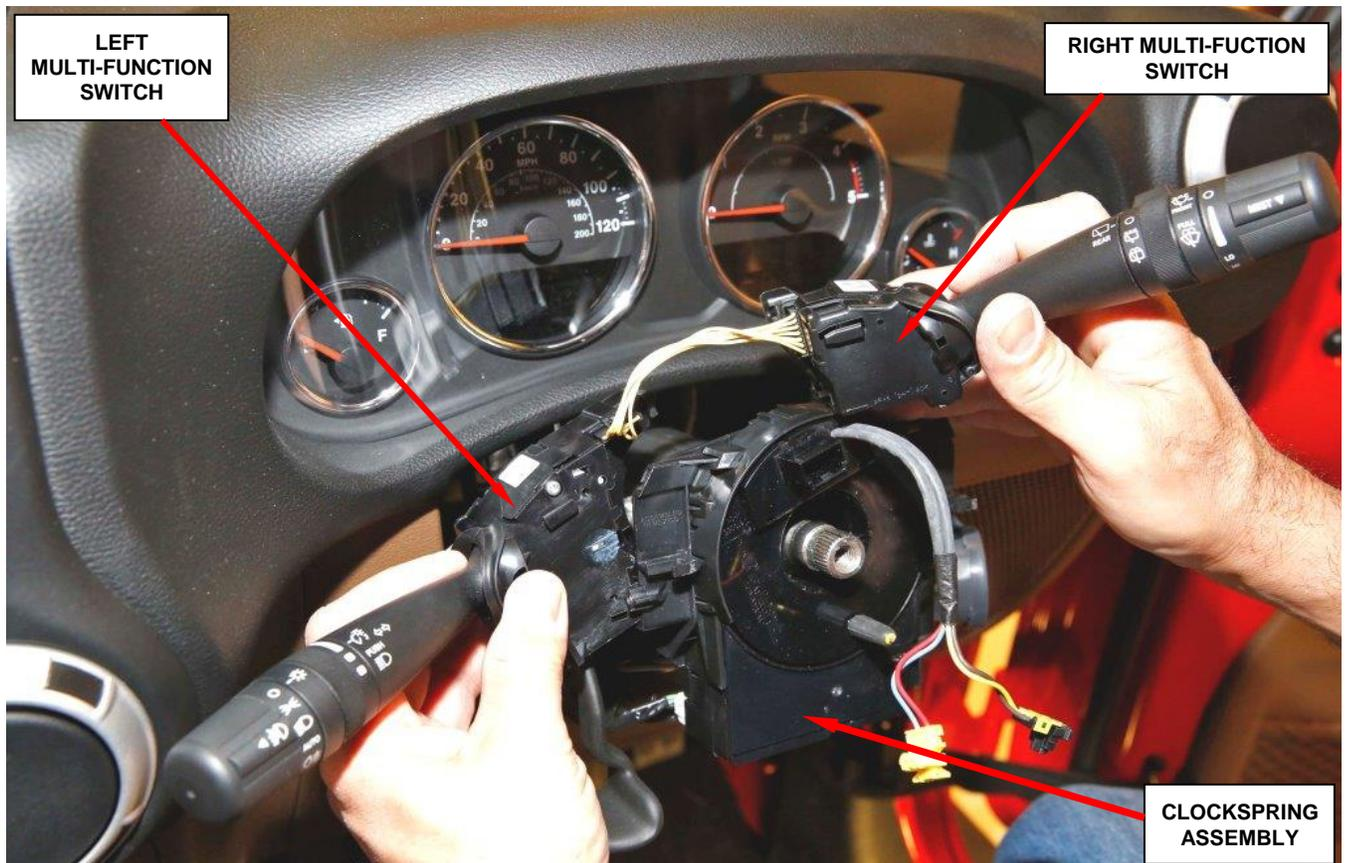

Figure 4 – Right and Left Multi-Function Switches
9. Remove and save the right and left multi-function switches (Figure 4).